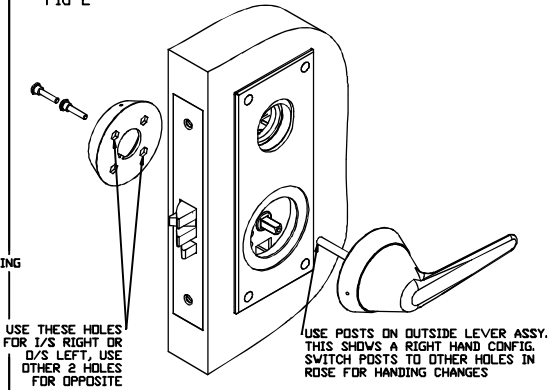

FIG 3
6. INSTALL THE INSIDE LEVER ASSEMBLY INTO THE ROSE- ALIGN TABS. SET SCREWS HAVE TO BE FLUSH OR BELOW THE SURFACE TO ALLOW CLEARANCE. SEE FIG 3.